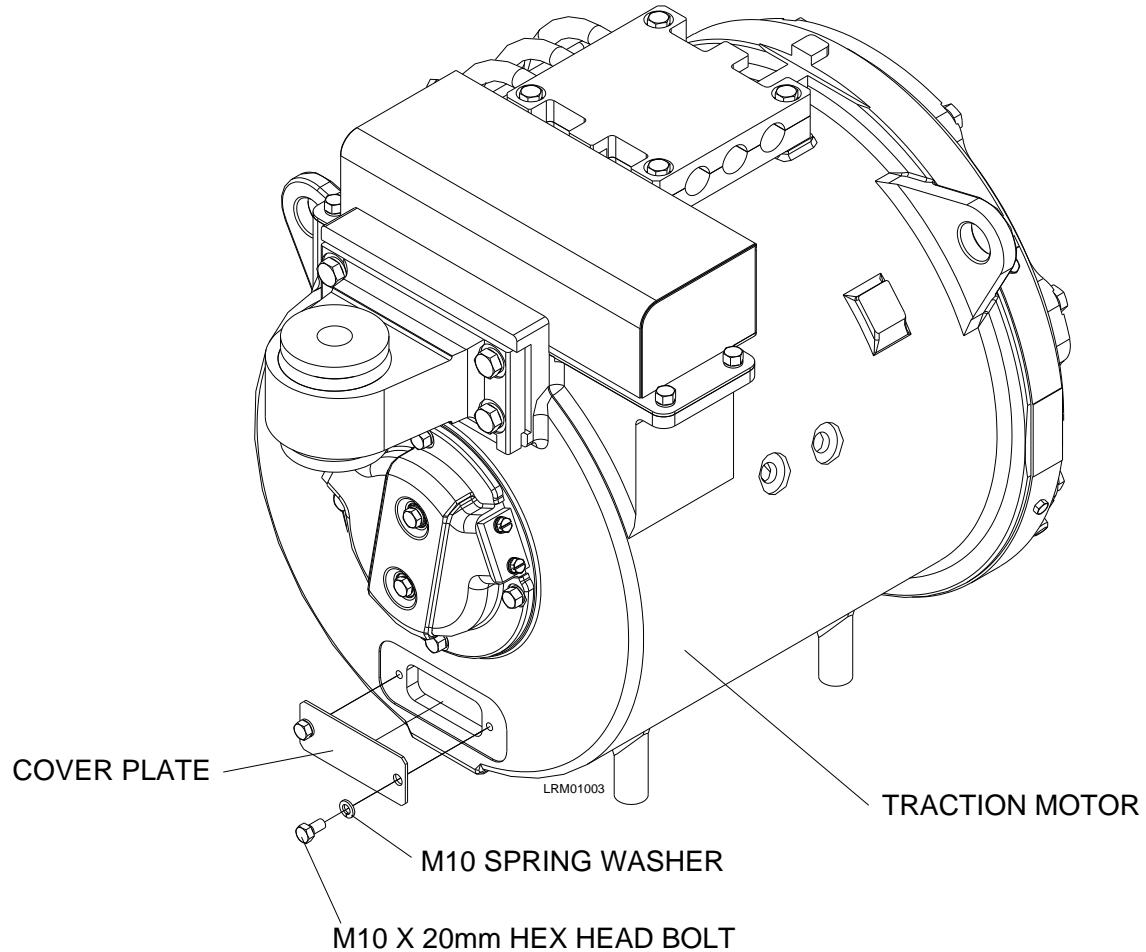

Figure 5-7: Traction Motor
1. Remove the two (M10) traction motor inspection cover mounting bolts below from Figure 5-7 in the graphic below.